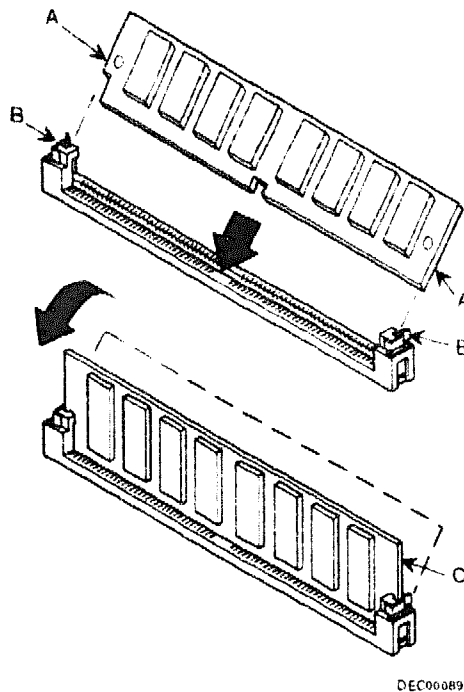

Figure 3-28 - Installing SIMMs
All other DECpc 300/400 LP series computers are supplied with 4 MB of DRAM (minimum standard configuration). You can increase the standard amount of DRAM (up to 64 MB) using the four SIMM sockets located on the main board (see Table 3-3 and Figure 3-28). Each socket holds one 4 MB or 16 MB double-sided 36-bit SIMM as follows:
3. Looking from the front of the computer, carefully position each SIMM with the notch facing you. Insert its bottom edge into the socket slot beginning with the left-most vacant socket (see Figure 3-28, A).
4. When each SIMM seats correctly, hold the ends and gently push the top edge toward the slot retaining clips (Figure 3-28, B) until it snaps into place (Figure 3-28, C).